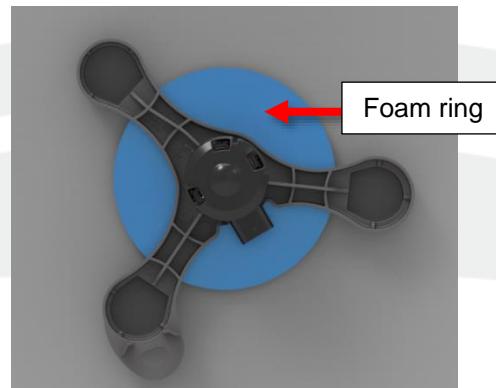

Figure 1
2. Check for the presence of a foam ring around the ultrasonic sensor (Figure 1).